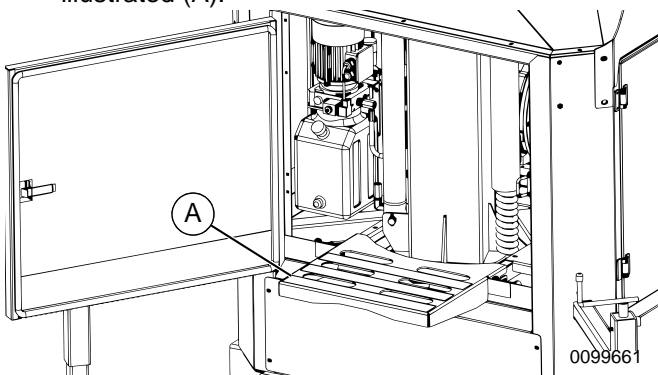

Figure 3-7. Foldout Step—Deployed Position
4. See **Figure 3-7**. Flip step into deployed position, as illustrated (A).